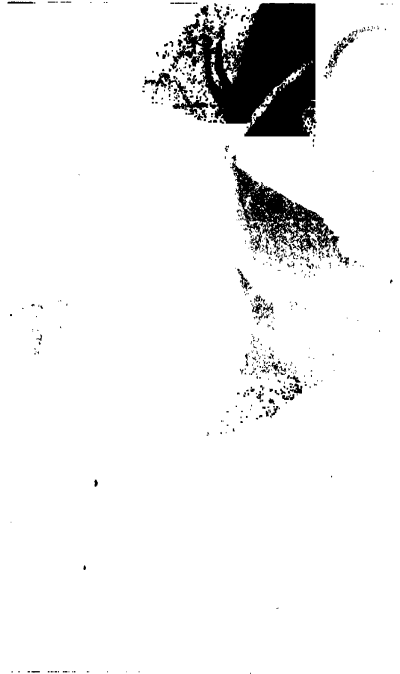

Fig. 116.
(1) Lines for marking where the corners of the platform of the bracket are to be cut off.
(2) Lines for the groove.
Saw off the corners of prism (a) along the lines (1). Place the prism horizontally on the bench hook. Bore the holes (4) with the auger gimlet. In doing this be careful to keep the gimlet vertical (Fig. 116).